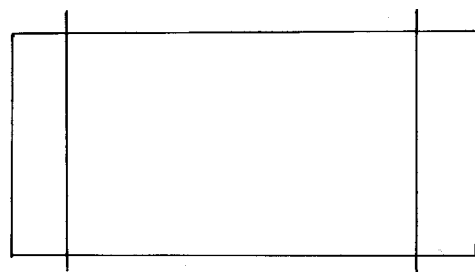

Figure 1.6
1. **The car does not travel in a straight line.** They should check the alignment of the dowels. Are they parallel to each other (Figure 1.6)?